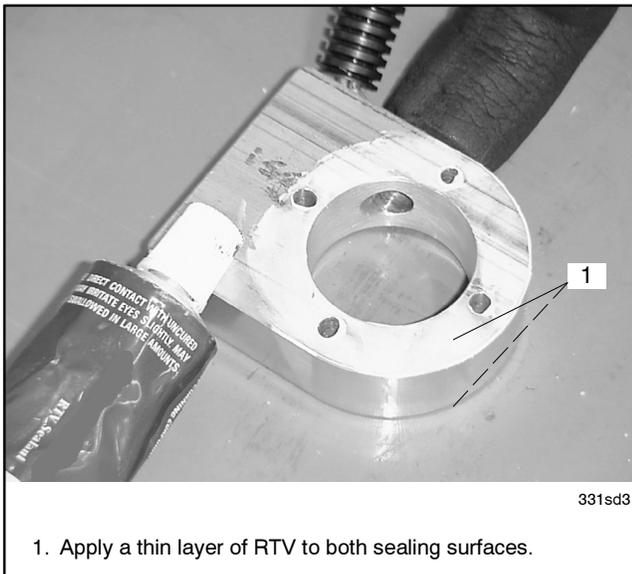

Figure 11 RTV Sealant
1. Apply a thin layer of RTV sealant to both sealing surfaces of the heater. See Figure 11.